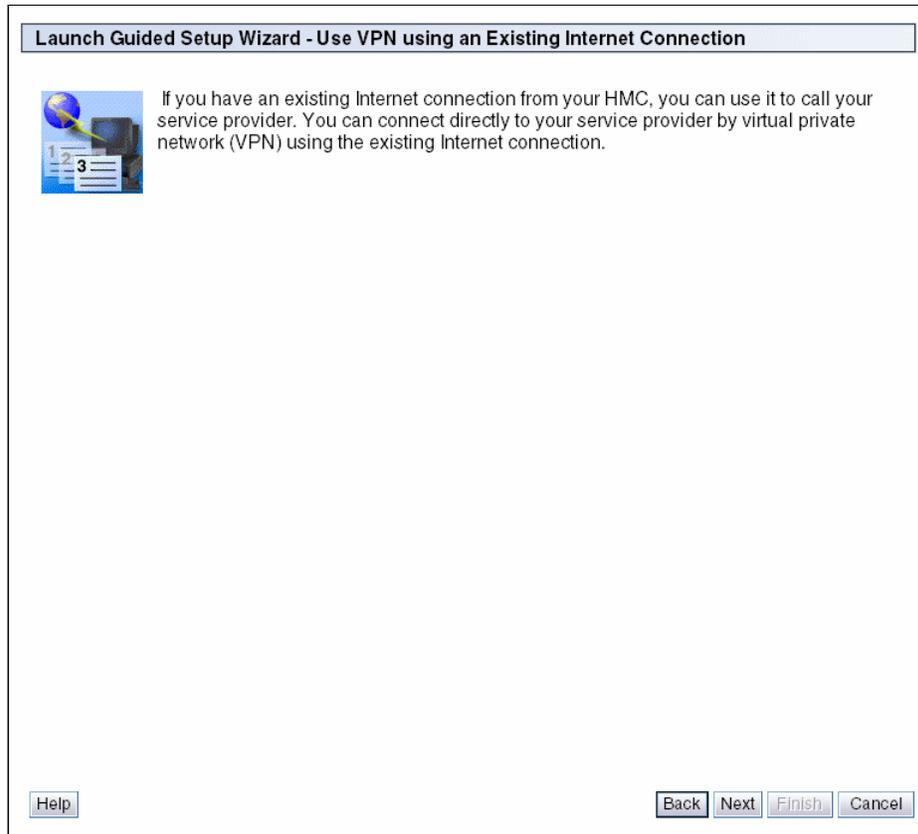

Figure 3-45 Launch Guided Setup Wizard - Use VPN using an Existing Internet Connection
37. Select **Use SSL Proxy**, then enter SSL Proxy address and the port. You also can authenticate with the SSL Proxy by selecting **Authenticate with the SSL Proxy** then enter the user and password for the SSL Proxy. You should have the information from your network administrator. Click **Next** to continue with the Guided Setup wizard. The Launch Guided Setup Wizard - Use VPN using an Existing Internet Connection panel is now shown (Figure 3-45).